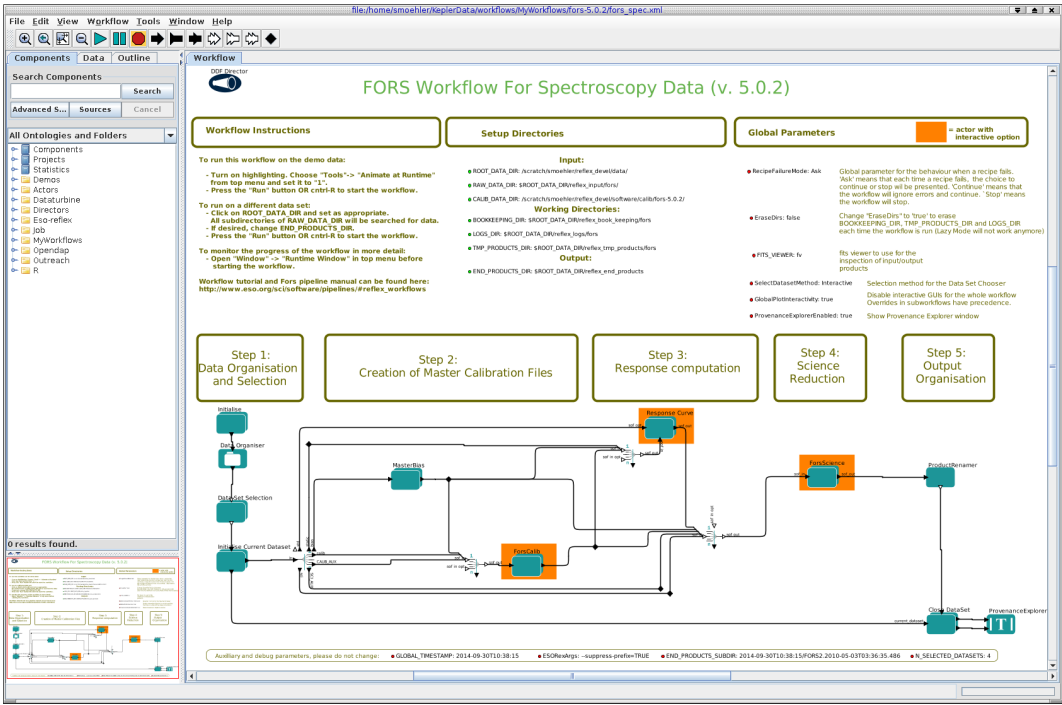

Figure 4.2: FORS2 workflow general layout.
2. Now open the FORS2 workflow by clicking on **File** -> **Open File**, selecting first `fors-5.0.2` and then the file `ForsSpec.xml` in the file browser. You will be presented with the workflow canvas shown in Figure 4.2. Note that the workflow will appear as a canvas in a new window.